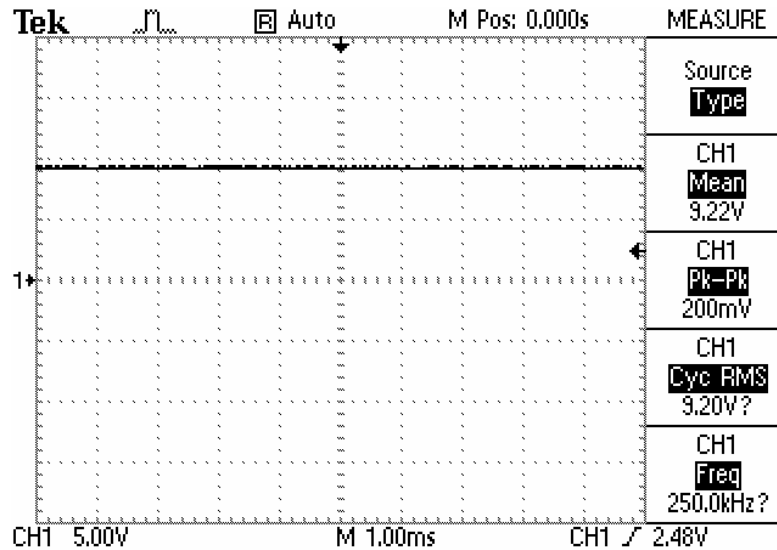

Figure 6: Oscilloscope Display of +9V Power Supply
22. The oscilloscope waveform should be a straight horizontal line at about +9V. See Figure 6.